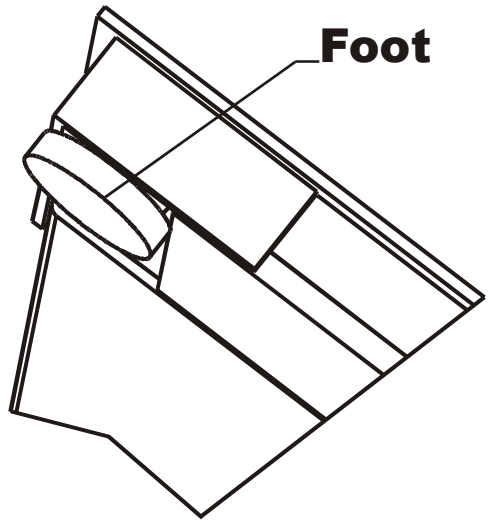

FIG. 9 ADJUSTING THE FEET FOR LEVEL
- Step 3. Use a level (Spirit level, Bullseye level or similar) to check if the platform is level, side to side, corner to corner and diagonally. (See Figs. 9, 10, 11, 12)
Step 4. Adjust each of the leveling feet in the direction (either up or down), indicated by the level readings. (See Fig. 9)